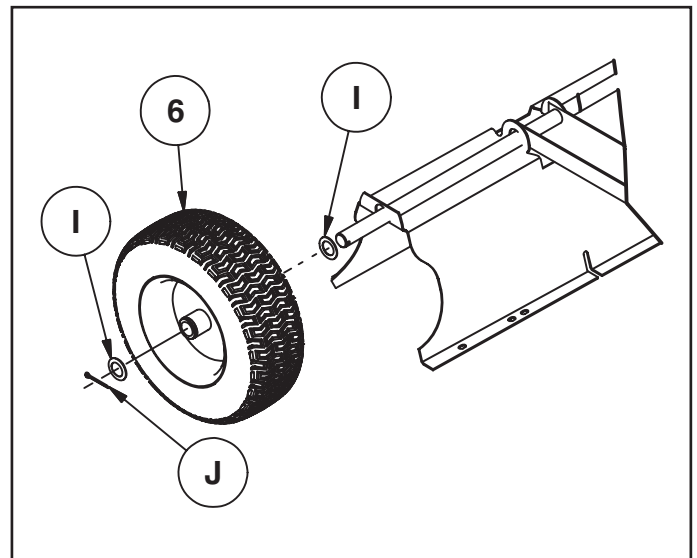

FIGURE 5
STEP 5: (SEE FIGURE 5)
- Assemble a washer (I), a wheel (6) with the valve stem facing out, and another washer (I) onto the axle. Assemble a cotter pin (J) to the axle. Repeat for other wheel.